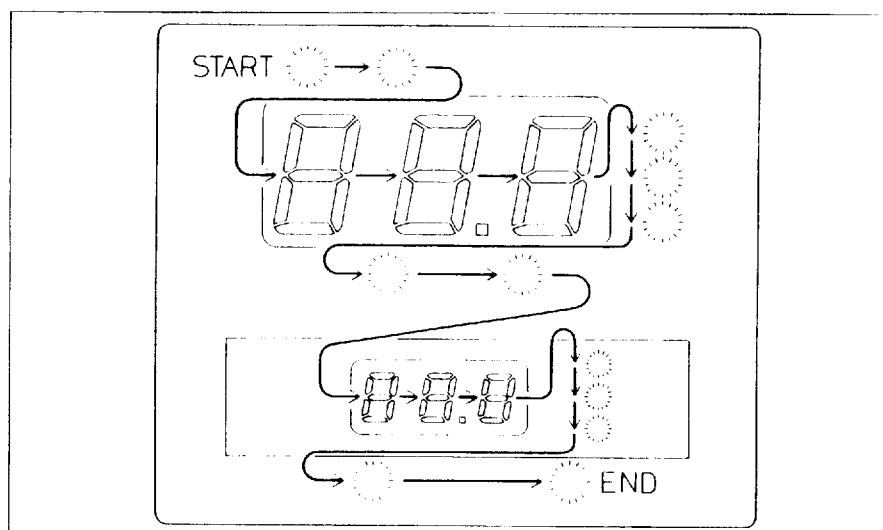

Fig. 7.7
- 4) LED lamp lights sequentially from top left to right as shown in Fig. 7.7. The numeral segments display figure of eight.